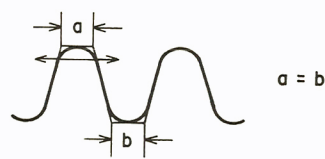

Fig. 6-4 TP1, 2 Waveform
- (GND) on AUDIO P.C BOARD, and observe the wave form while the Tone Arm is moving FWD or BWD above the record and adjust VR3 so that the duty of the waveform is 50% as shown in Fig. 6-4.
- 4) Next, connect an oscilloscope to TP2 and adjust VR2 in the same manner as item 3).